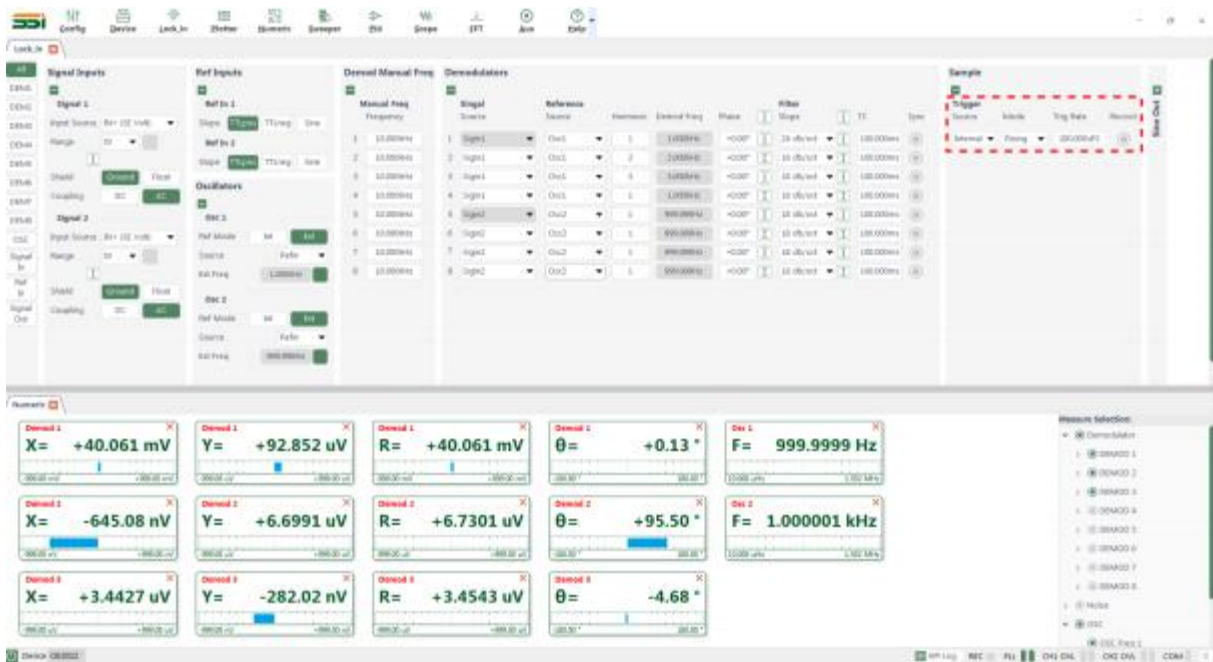

Figure 84. Data Storage Configuration Area Diagram
1、 When the software is running, click the "Record" button in the red box in Figure 84. When the button is selected, it indicates that the system has started recording the current collected data.